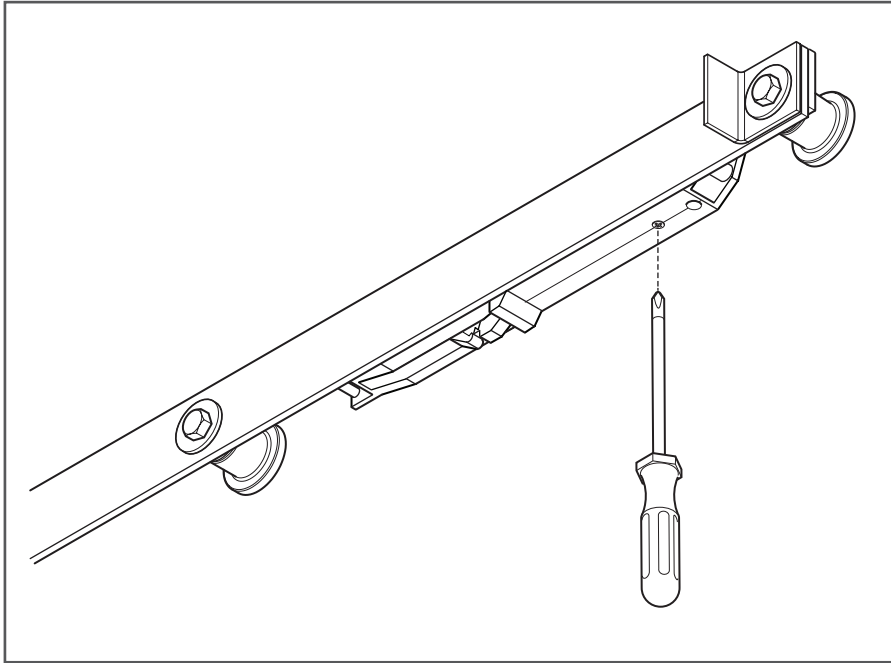

Figure 7
10. To adjust the tension for the soft close, turn the phillips screw on the bottom of the mechanism using a phillips screw driver (Figure 7).